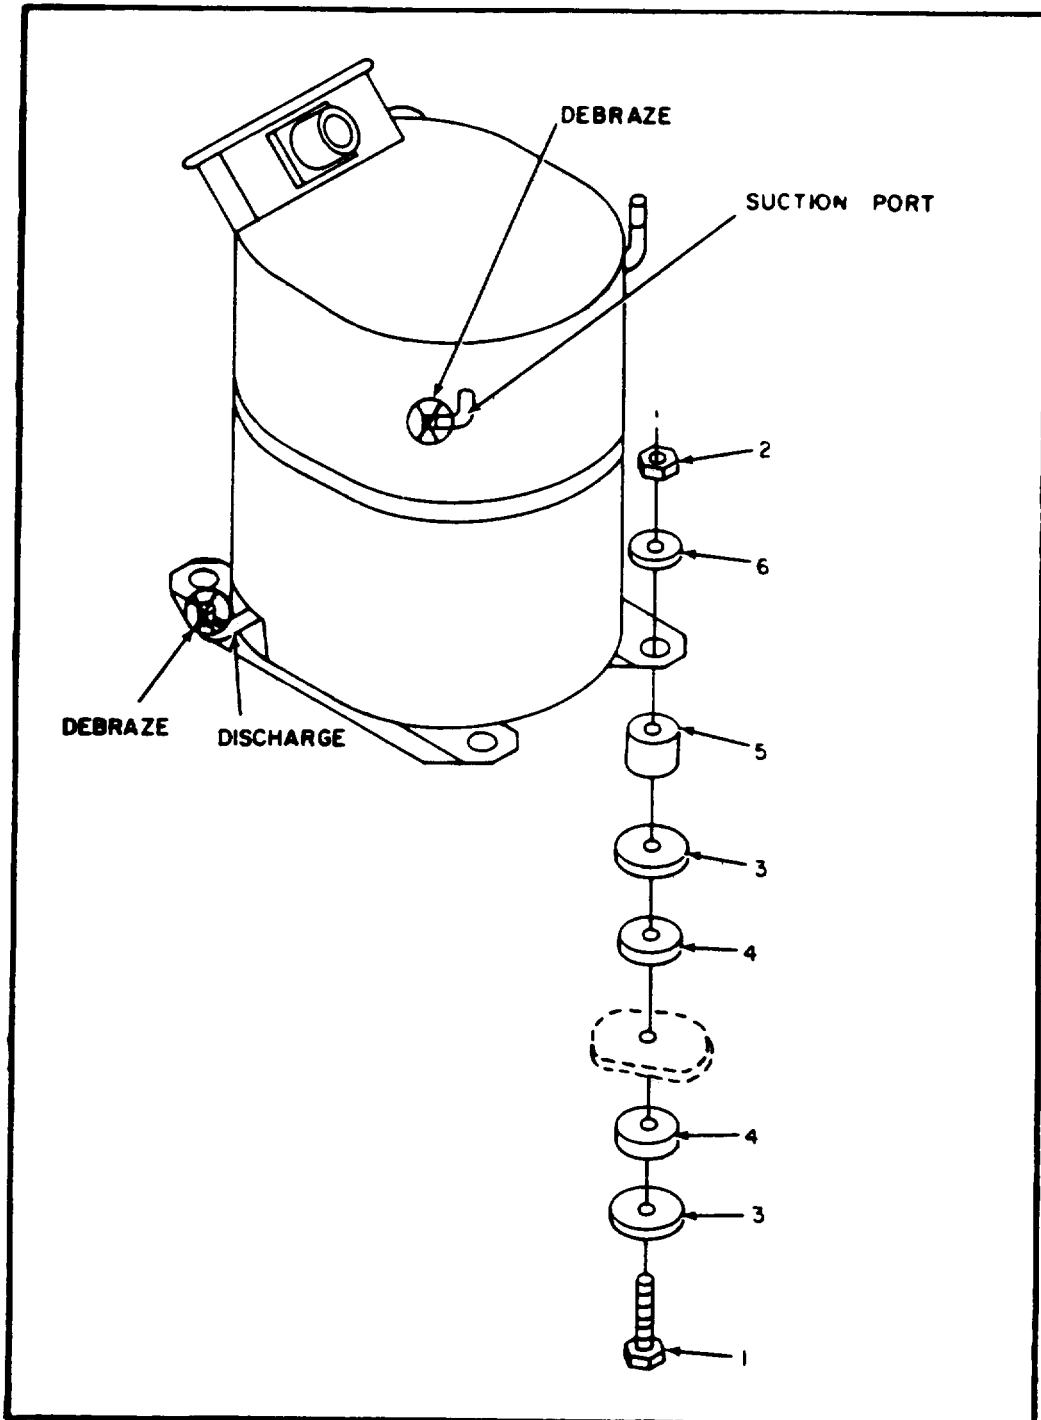

Figure 5-13. Recommended Debraze/Brazing Locations and Compressor Removal/Instillation.
7. Remove 4 nuts (2), 4 socket head shoulder screws (1), 12 flat washers (3 and 6), 4 spacers (5), and 8 resilient washers (4). Remove screws (1) through bottom of air conditioner casing. Save for reinstallation. See Figure 5-13.
5. Braze discharge port tubing in place. See Figure 5-13.
6. Braze suction port tubing in place. See Figure 5-13.